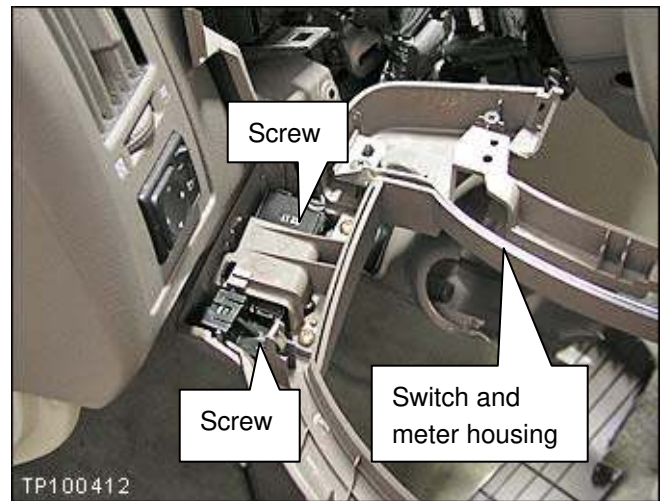

Figure 9
- a. Remove the 2 screws shown in Figure 9.